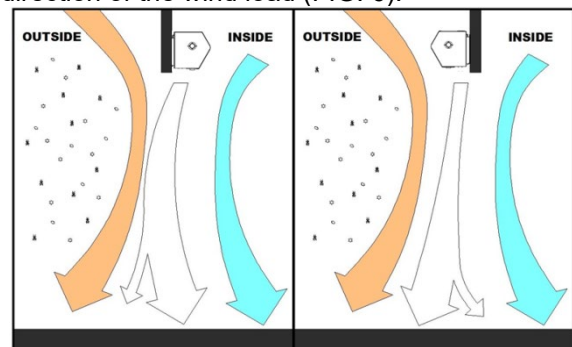

FIG. 6
- H. Regardless of whether the product is mounted on the inside or outside of the door opening, set the air directional vanes in the discharge nozzle slightly outward to approximately 10-15° towards the in the direction of the wind load (FIG. 6).